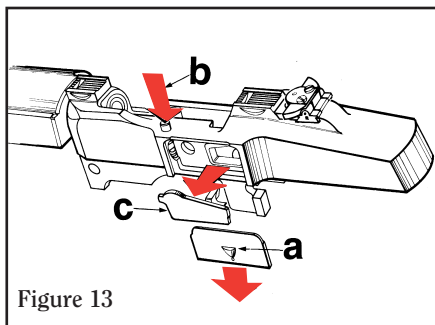

Figure 13
9. Remove bolt lock cover plate by carefully tapping downward (with a soft-metal punch) at point “a”. (See Fig. 13). With cover plate removed, depress bolt lock plunger, “b”, which will allow ejector/bolt stop, “c”, to be lifted out. (See “Caution” in step 6, p. 24)